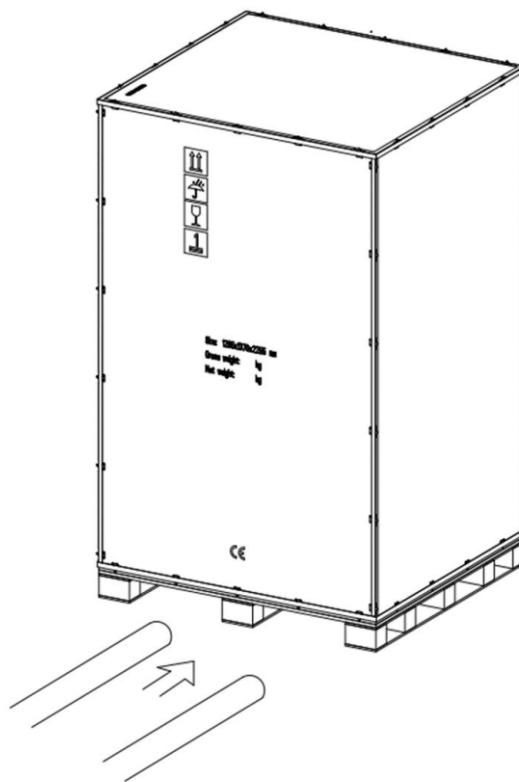

Figure 3-3 Transport the equipment to the designated location
Step 2: Use a forklift to transport the equipment to the designated location, see Figure 3-3;